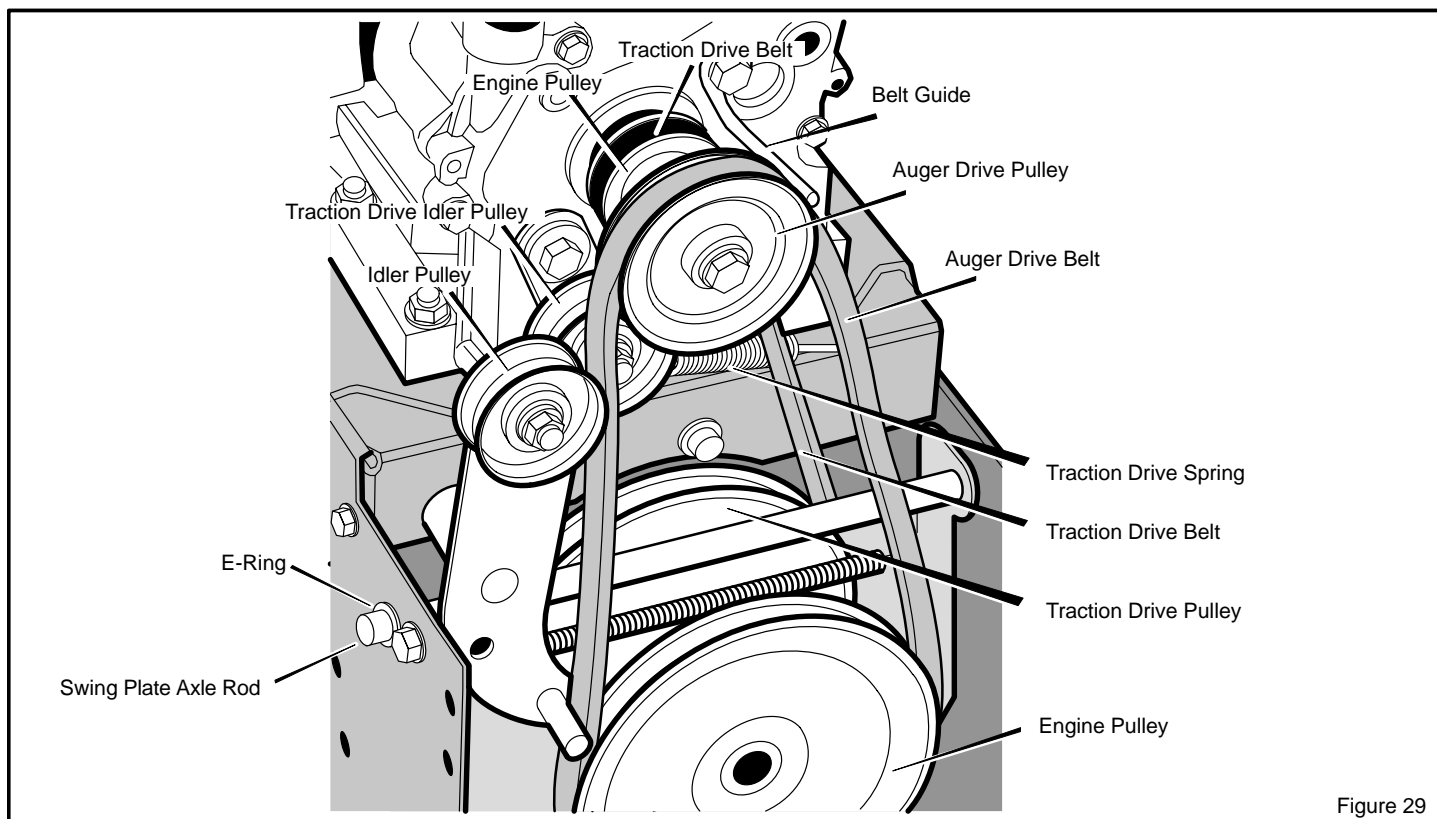

Figure 29
3. Loosen nut on auger idler pulley and move auger idler pulley towards belt about 1/8 inch (3 mm) (see Figure 29).
5. Loosen the **belt guide**. Pull the **belt guide** away from the **auger drive pulley** (see Figure 29).
3. Remove the **e-ring** from one end of the **swing plate axle rod**. Remove the **swing plate axle rod** to allow the swing plate to pivot forward (see Figure 29).